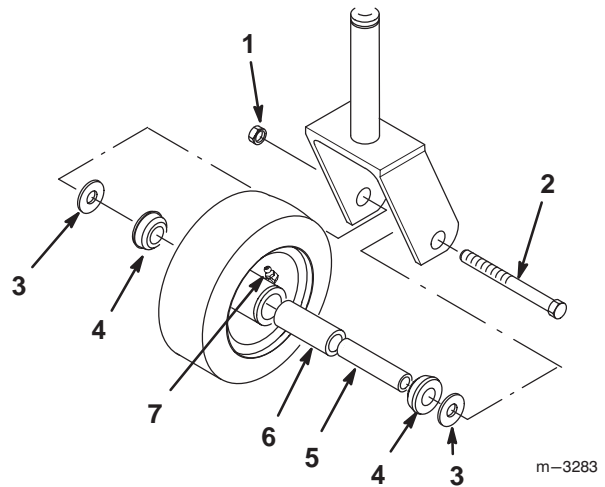

Figure 41
1. Remove the locknut and wheel bolt holding the castor wheel to the castor fork (Fig. 41).
2. Remove the washer and bushing, then pull the spanner bushing and roller bearing out of the wheel hub (Fig. 41).
3. Remove the other bushing from the wheel hub and clean any grease and dirt from the wheel hub (Fig. 41).
4. Inspect the roller bearing, bushings, spanner bushing and inside of the wheel hub for wear. Replace any defective or worn parts (Fig. 41).
5. To assemble, place one (1) bushing into the wheel hub. Grease the roller bearing and spanner bushing and slide them into the wheel hub. Place the second bushing into the wheel hub (Fig. 41).
6. Install the castor wheel into the castor fork and secure with the wheel bolt and locknut. Tighten the locknut until the spanner bushing bottoms against the inside of the castor forks (Fig. 41).